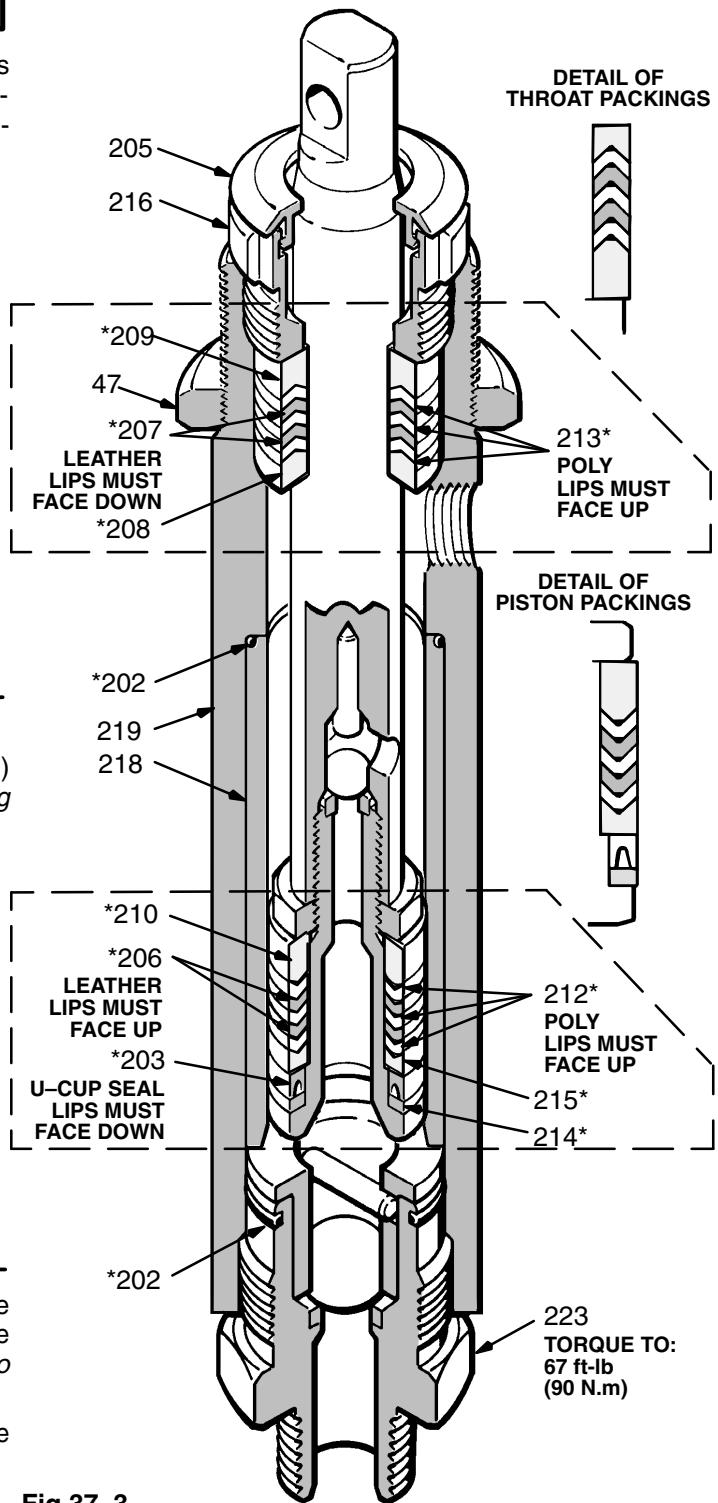
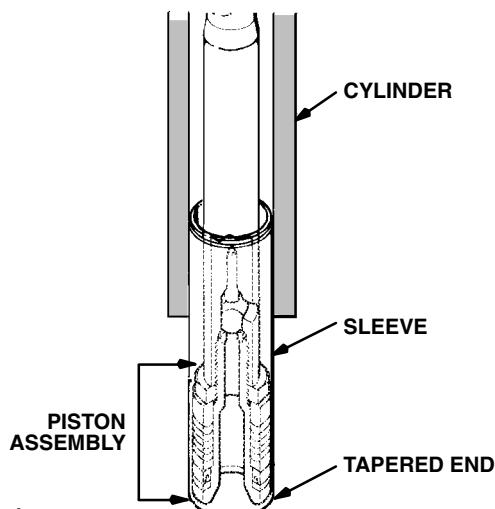

Fig 37-3
Fig 38-1
3. Remove the packing nut (216) and plug (205). Refer to Fig 37-3.
4. Use a plastic mallet to tap the piston rod (224) down, then pull the rod out through the bottom of the cylinder.
5. Remove the throat packings (207, 213) and glands (208, 209). Refer to Fig 37-3.
8. One at a time stack the male gland (208*), alternate the packings (213*, 207*), and then install the female gland (9), into the top of the cylinder (219). Refer to Fig 37-3.
9. Install the packing nut (216) and plug (205), but leave loose for now. Refer to Fig 37-3.
NOTE: The tapered end of the sleeve is the bottom of it. Refer to Fig 38-1.
11. Place a new o-ring (202*) firmly in the cylinder groove. Refer to Fig 37-3.
12. Slide the sleeve/piston rod assembly **INTO THE BOTTOM OF THE CYLINDER**. This is to prevent packing damage during reassembly. *Refer to Fig 38-1.*
13. Screw down the cylinder locknut (47) until it is finger tight at the bottom of the external cylinder threads.
14. Place flats of the intake valve (223) in a vise. Install a new o-ring (202*). Screw the pump cylinder into the valve. Torque to 67 ft-lb (90 N.m). *Refer to Fig 37-3.*